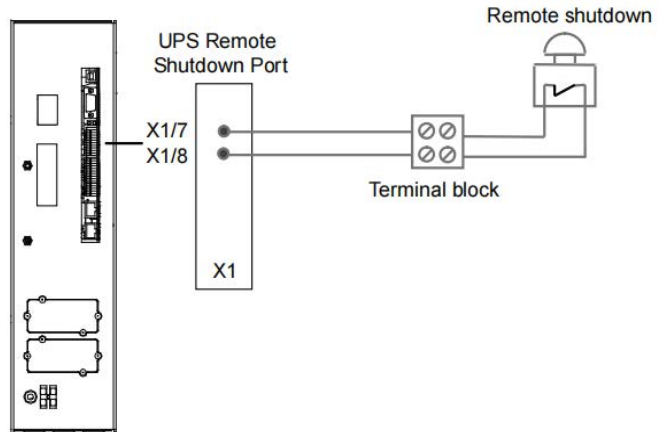

Figure 8.3 Remote emergency stop cabling
The EPO facility comprises a normally-closed circuit connected between terminal X3/3 and X3/4 on the communications interface board (see Figure 8.3).
2. Connect the cable as shown in Figure 8.3.